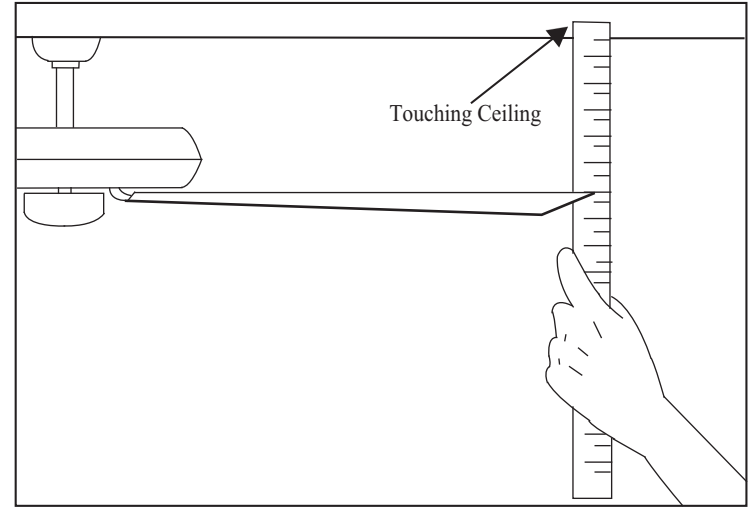

Figure 11
- Select a point on the ceiling above the tip of one of the blades, then select any fan blade and measure from the center of the selected blade to the point on the ceiling (as shown in Figure 11). Rotate the fan until the next blade is positioned and repeat the measurement using the same point from the ceiling for every blade. Measurement deviations should be within 1/8".